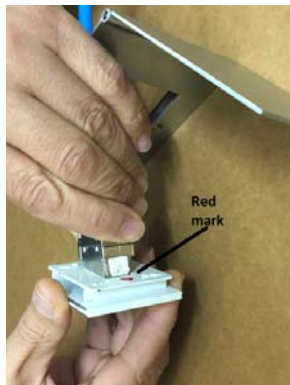

Figure 4.
**STEP#3-** Snap fit the plastic nail of the 3M socket to the red mark side of the “MK-3M fit up”; while keeping pivotal position of the steel nail fixed as is in step#2. Press firmly until you hear click! See (Figure 4).